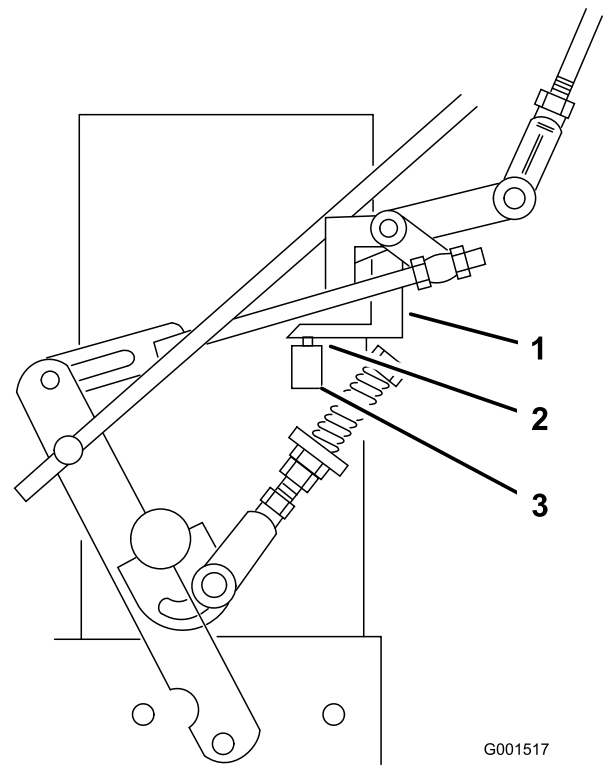

Figure 36
7. Check to make sure that the safety switch is pressed and there is a 8 mm (5/16 inch) space between the actuating tab and the switch. (Figure 36).
8. If needed, adjust the switch location to create the 8 mm (5/16 inch) space (Figure 36).